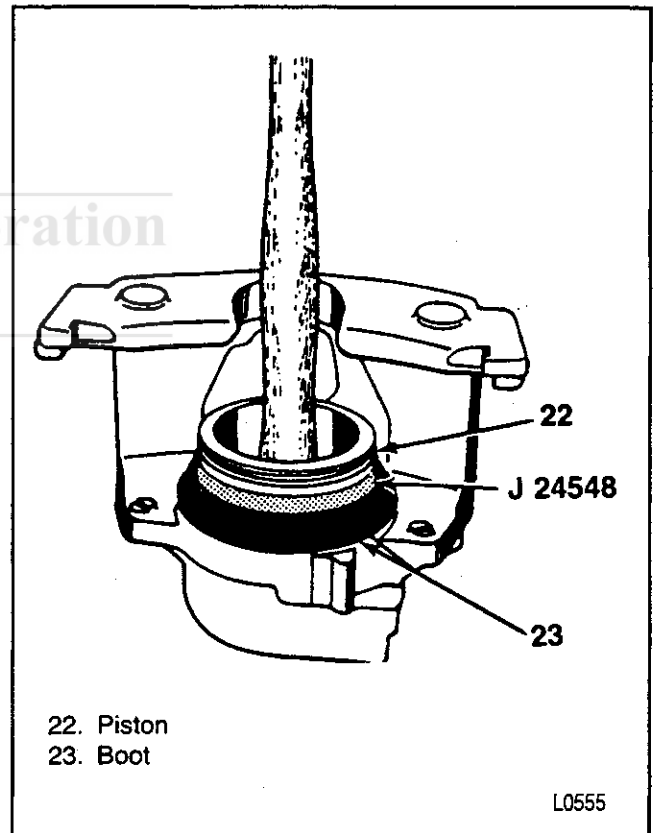

Figure 13—Installing the Piston
2. Piston seal (21).
3. Boot (23) on J 24548.
5. Piston (22) inside J 24548 (figure 13).